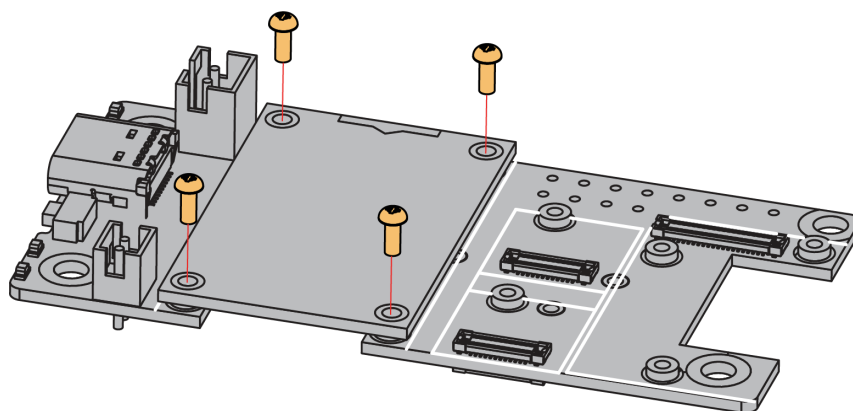

Figure 19: Removing screws from the WisBlock module
1. The procedure to disassemble any type of WisBlock module is the same. As shown in **Figure 19**, first, remove the screws.